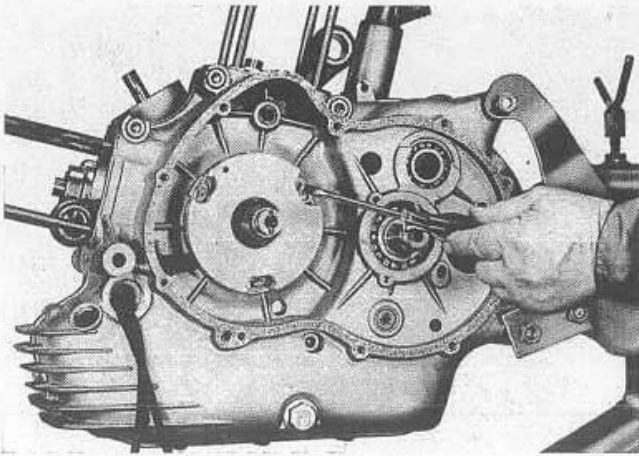

Fig. 87
**MONTAGGIO PIASTRA STATORE GENERATORE DI ACCENSIONE ELETTRONICA (vedi fig. 87).**
**FITTING THE STATOR PLATE OF THE ELECTRONIC IGNITION GENERATOR (see fig. 87).**